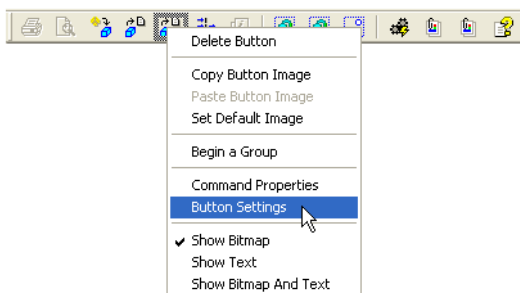

Figure 1-27. Display Command Properties
1. Right-click a **toolbar button** and click **Button Settings** on the pop-up menu (Figure 1-27).